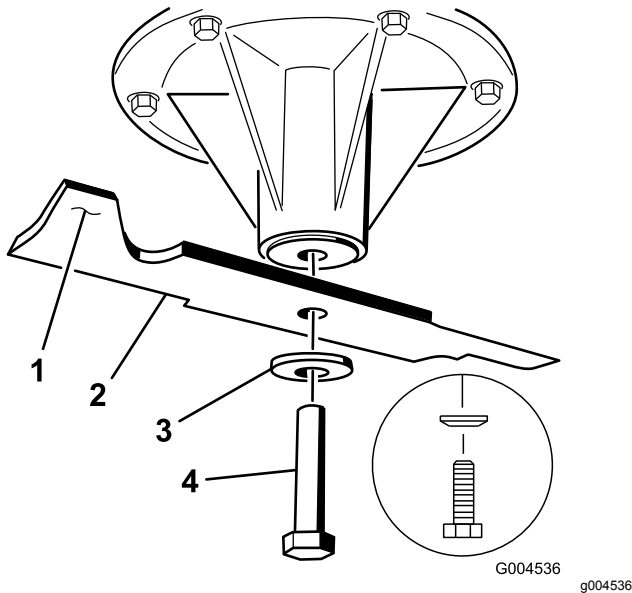

Figure 93
2. Remove the blade bolt, curved washer, and blade from the spindle shaft (Figure 93).
1. Install the blade onto the spindle shaft (Figure 93).
2. Install the curved washer and blade bolt (Figure 93).